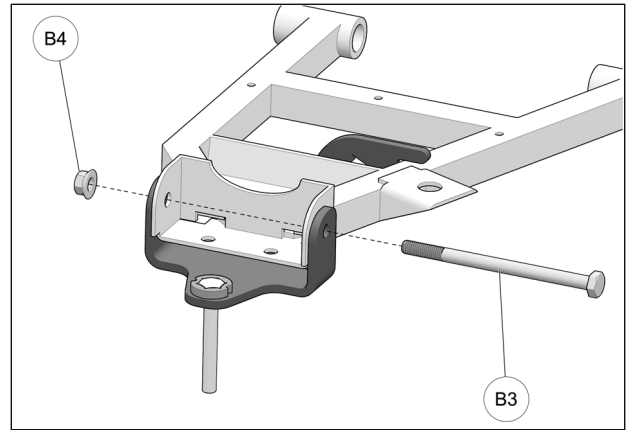

Fig. 8
- Insert the new M10x150mm bolt (B3) through anchor bracket, suspension arm and wheel knuckle. Secure assembly with the provided M10 nut (B4). Torque nut to 50 N•m [37 lb•ft]. See Fig. 8